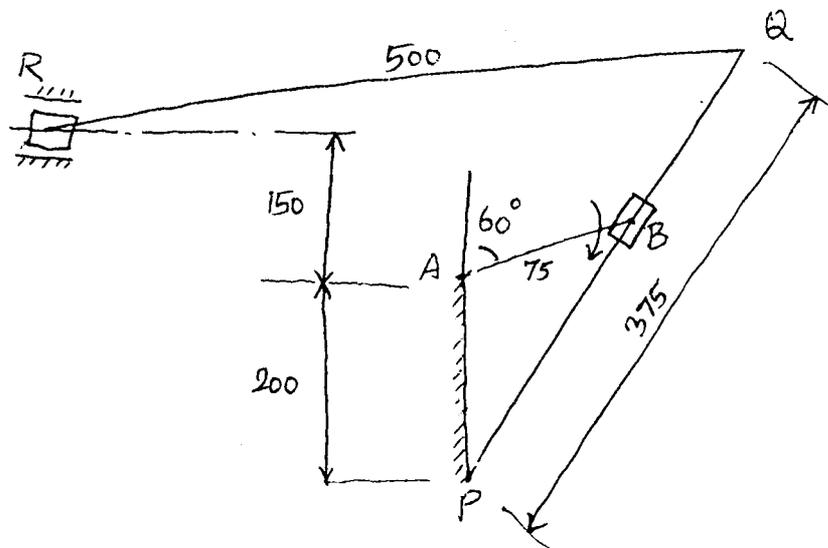

Fig. 12 (a)
12. (a) The driving crank AD of the quick-return mechanism, as shown in Fig. 12. (a). revolves at a uniform speed of 200 r.p.m. Find the velocity and acceleration of the tool-box R, in the position shown, when the crank makes an angle of 60° with the vertical line of centers PA. What is the acceleration of sliding of the block at B along the slotted lever PQ?